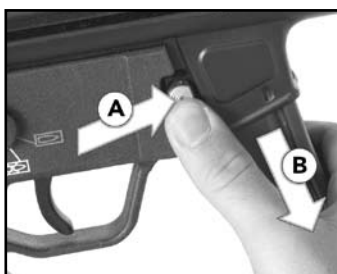

Fig. 27 – Unloading
2. Remove magazine by grasping magazine housing, press magazine catch (A) and remove magazine (B) (Fig. 27).